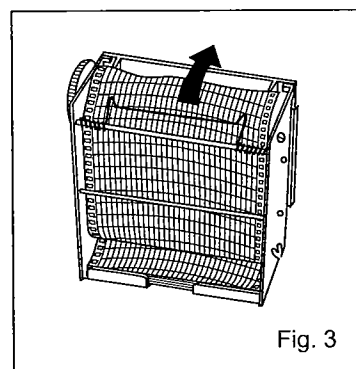

Fig. 3
3. Set a new chart in place on the rear bottom of the cartridge. Set the hole on the chart in the cog of the chart driving assembly and feed the chart in the direction of the arrow by driving the cog wheel. (Fig. 3)
4. Set the chart according to the mark of day and time. (Fig. 3)
7. Replace the control panel with the recorder attached and fix the panel with screws. (Fig. 3)